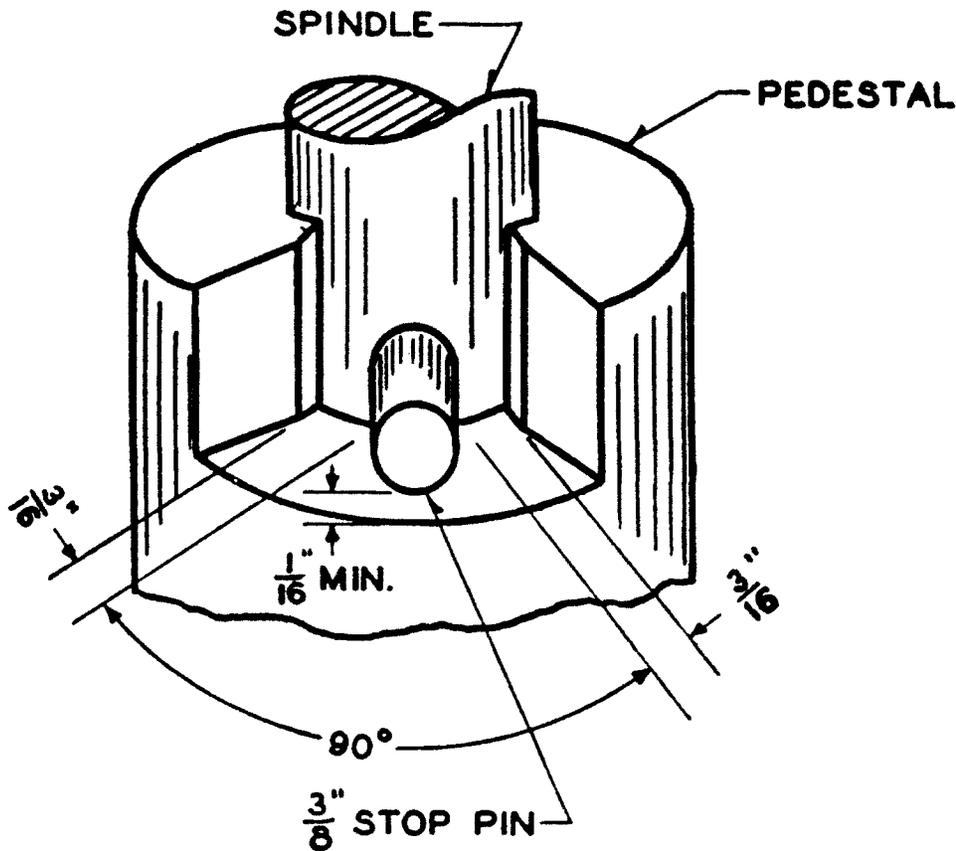

Fig. 6
5.02 On all chairs having a stop pin limiting the rotation of the chair, as shown in Fig. 6, the stop pin shall be 3/8 inch diameter. Chairs having 5/16 inch stop pins are subject to pin breakage and should be replaced.
5.03 The stop pin shall clear, by at least 1/16 inch, the top surface of the castellated truncated sector over which it swings as shown in Fig. 6.